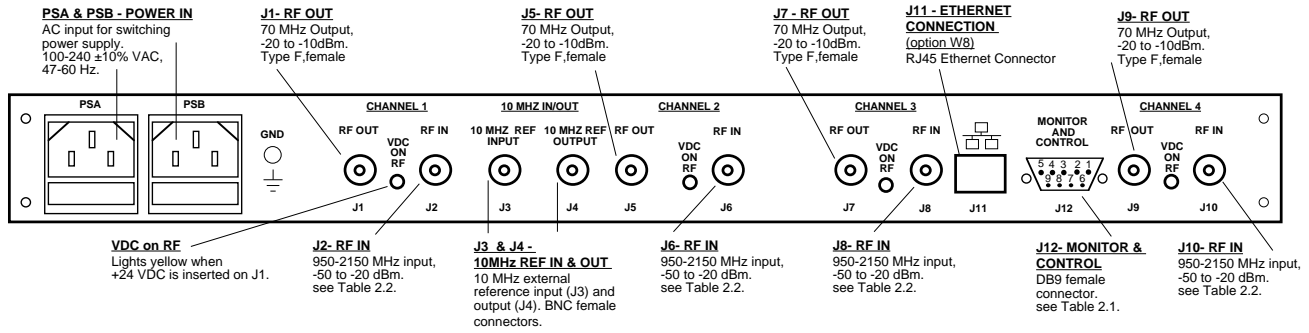

FIGURE 2.2 2416-x02 Rear Panel I/Os
Figure 2.2 shows the input and output connectors on the rear panel.
1. Connect a -50 dBm to -20 dBm signal to RF IN, J2 (Figure 2.2).